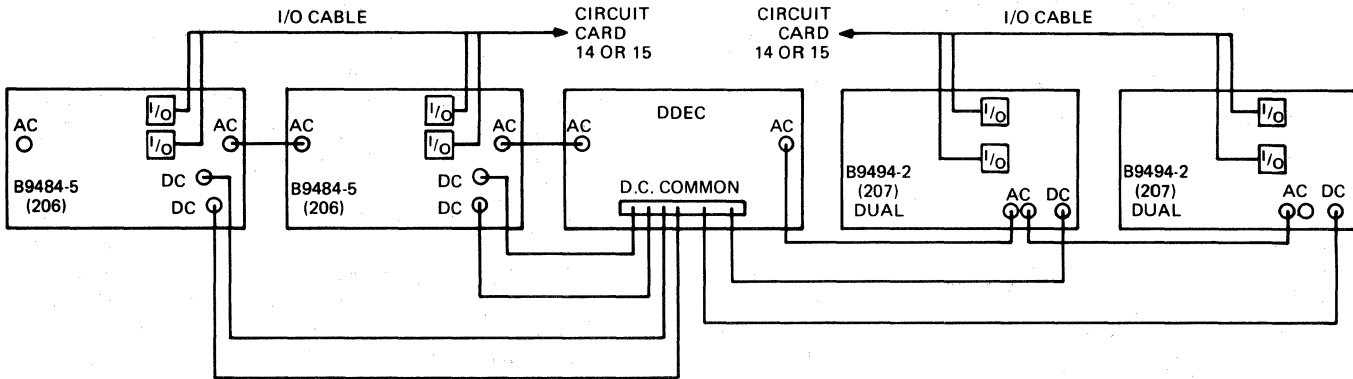

Figure 2-1. Cabling Configuration Example
Figure 2-1 gives an example of a 1 x 8 mixed subsystem with four B 9494-4 (207) drives and four B 9484-5 (206) drives. The AC and DC ground cables are shown in figure 2-1.
See figure 2-1 for an example of cabling. Also see the installation section of the drive technical manuals for more cabling information.